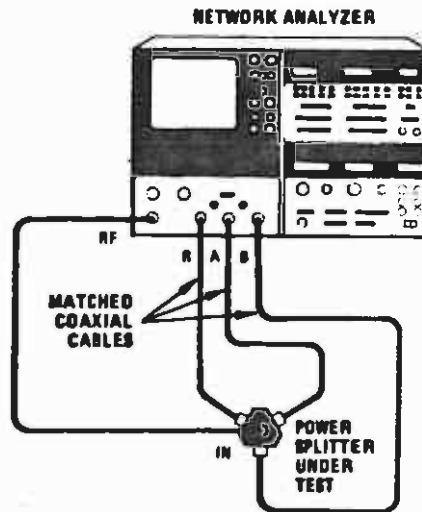

Figure 13. Phase Tracking Test Setup
- a. Connect equipment as shown in Figure 13.